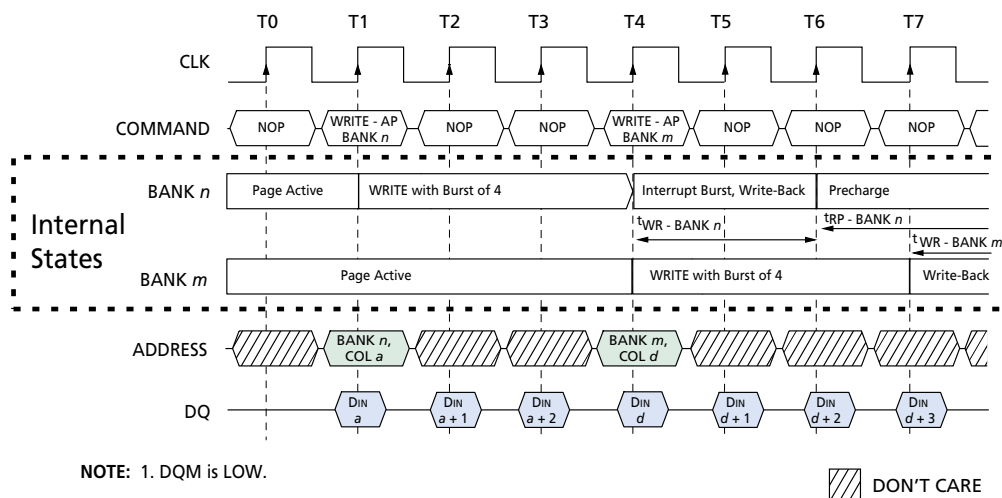

Figure 27
4. Interrupted by a WRITE (with or without AUTO PRECHARGE): A WRITE to bank m will interrupt a WRITE on bank n when registered. The PRECHARGE to bank n will begin after t_{WR} is met, where t_{WR} begins when the WRITE to bank m is registered. The last valid data WRITE to bank n will be data registered one clock prior to a WRITE to bank m (Figure 27).